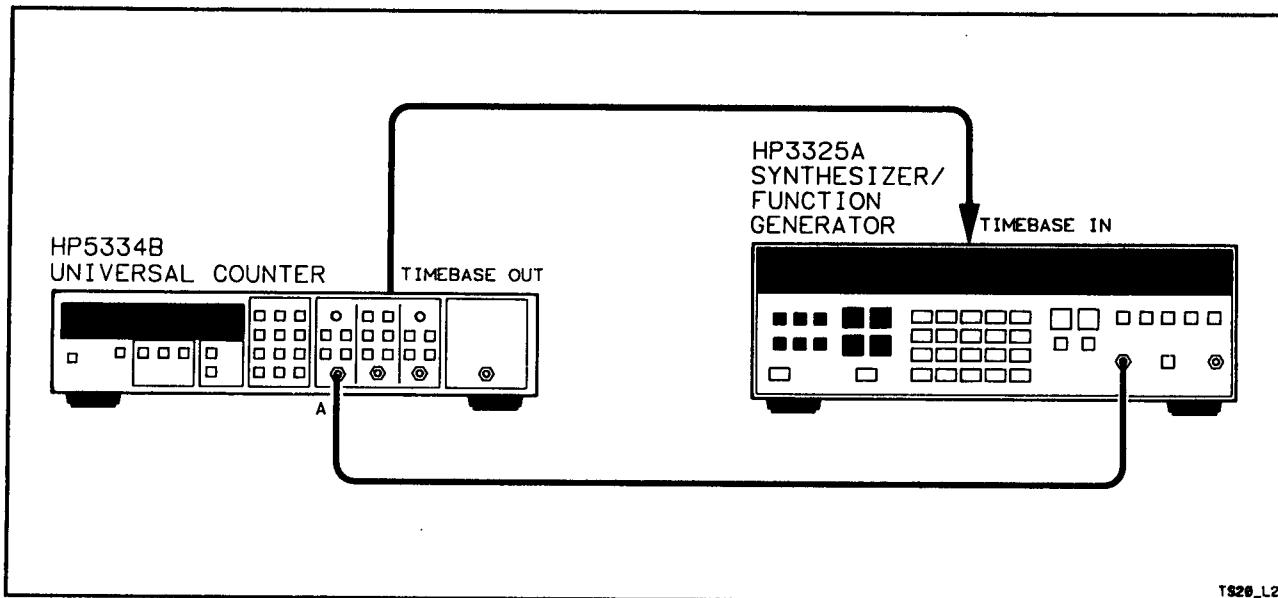

Figure 5-6. Channel A Sensitivity Adjust Setup
4. Connect the function generator signal to the 5334B Input A. Connect Time Base as shown in *Figure 5-6*.